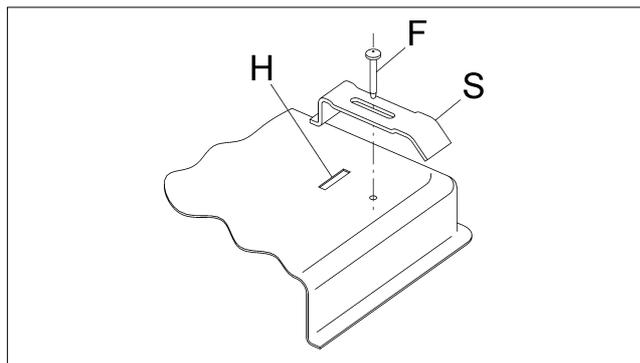

FIG. 8
- Fix the hob with the proper brackets "S" and fit the prominent part into the porthole "H" on the bottom; turn the screw "F" until the bracket "S" stick on the top (fig. 8).